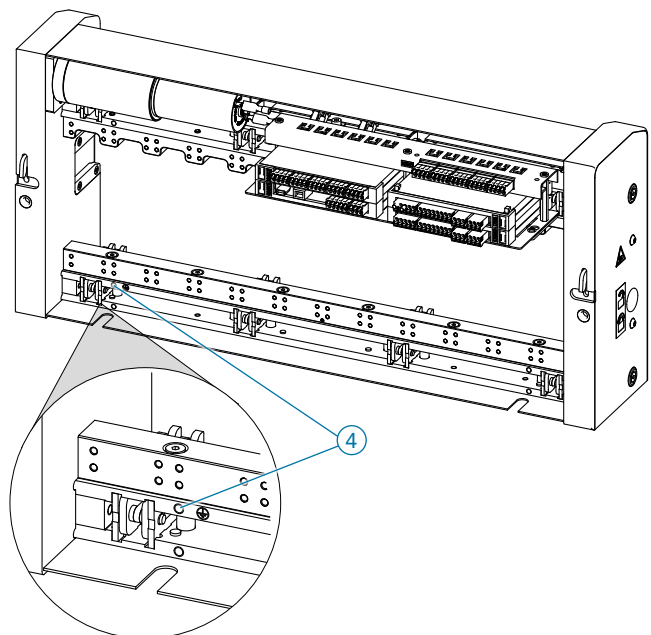

Fig. 149
- If the receiver (1) is operated without additional screw-on parts (2), the protective-conductor terminal should be attached at the position marked (4) in Fig. 149; see Table Section 6.17 for the prescribed torque.